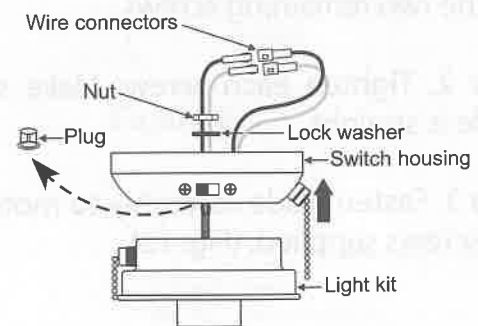

Figure 14
3. Make sure the white wire from the light kit connected to the white wire from switch housing, and black wire from light kit connected to the blue wire from switch housing. (Fig. 14)